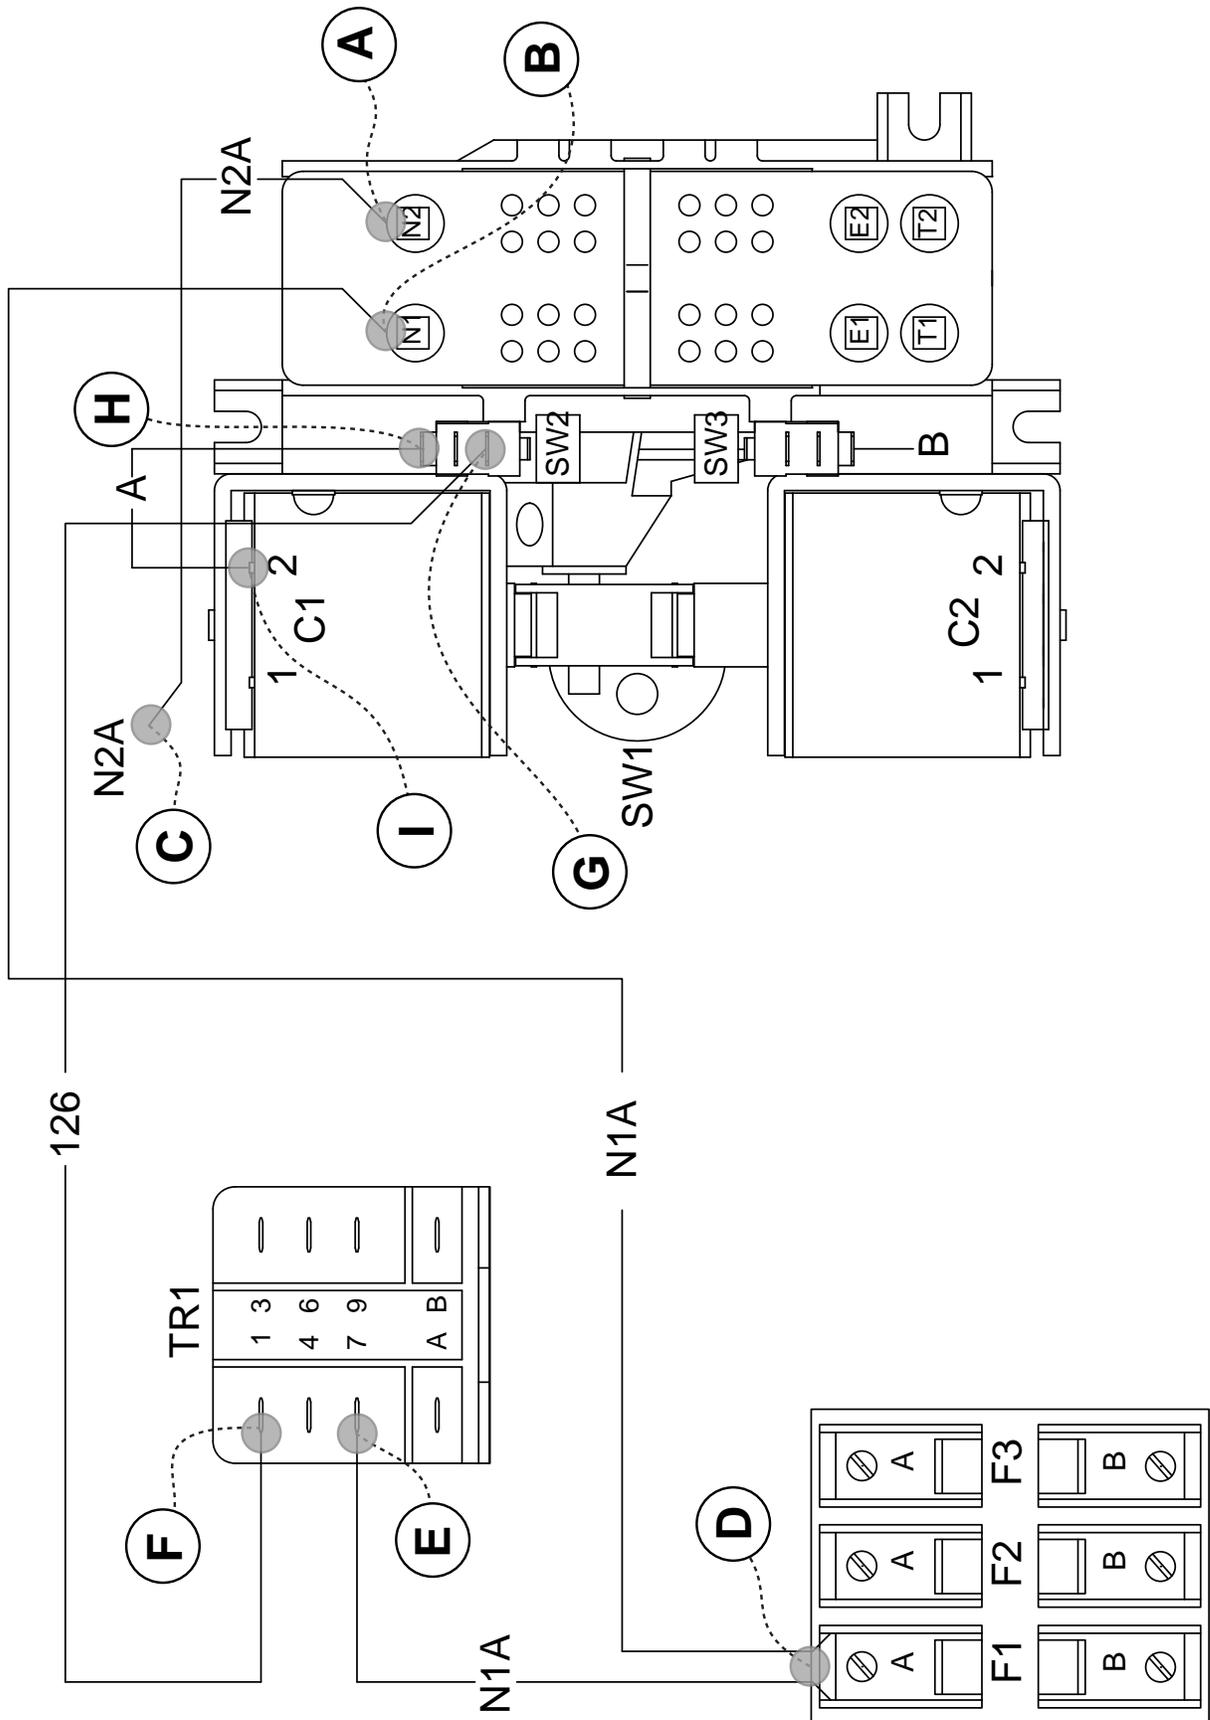

Figure 7. Utility Control Circuit Test Points
Refer to Figure 7.
3. Remove fuses F1, F2, and F3 from the fuse holder (see Figure 7).